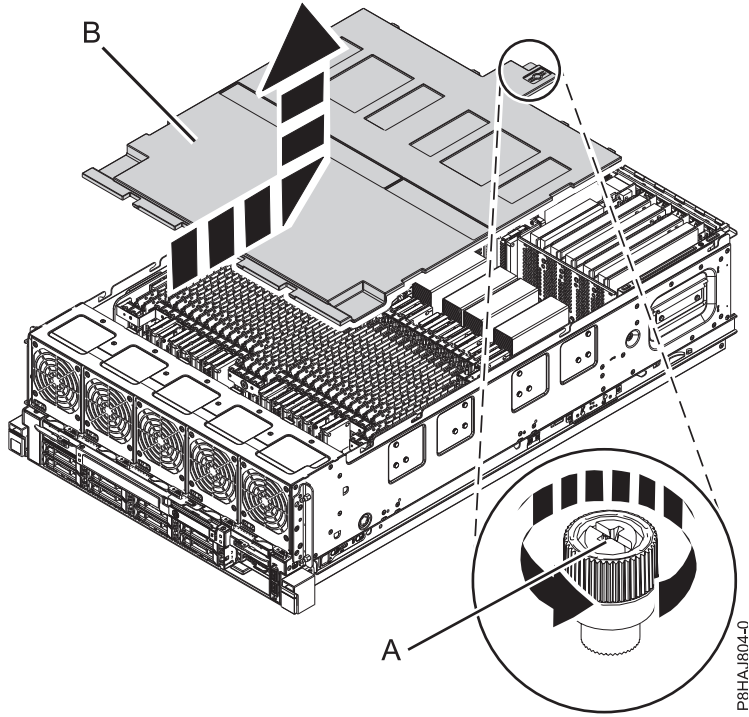

Figure 23. Removing the safety cover
2. Loosen the thumbscrew (A) located at the rear of the cover, by turning it in the direction shown in Figure 23 on page 36.
3. Slide the safety cover (B) toward the rear of the system. When the front of the cover has cleared the upper frame ledge, lift the cover up and off the system.